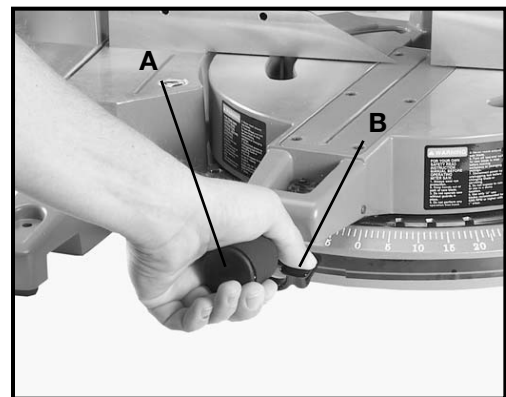

Fig. 12
1. The compound miter saw will cut any angle from a straight 0 degree cut to 47 degrees right and left. Rotate locking knob (A) Fig. 12, depress lock lever (B), and rotate table to desired position.